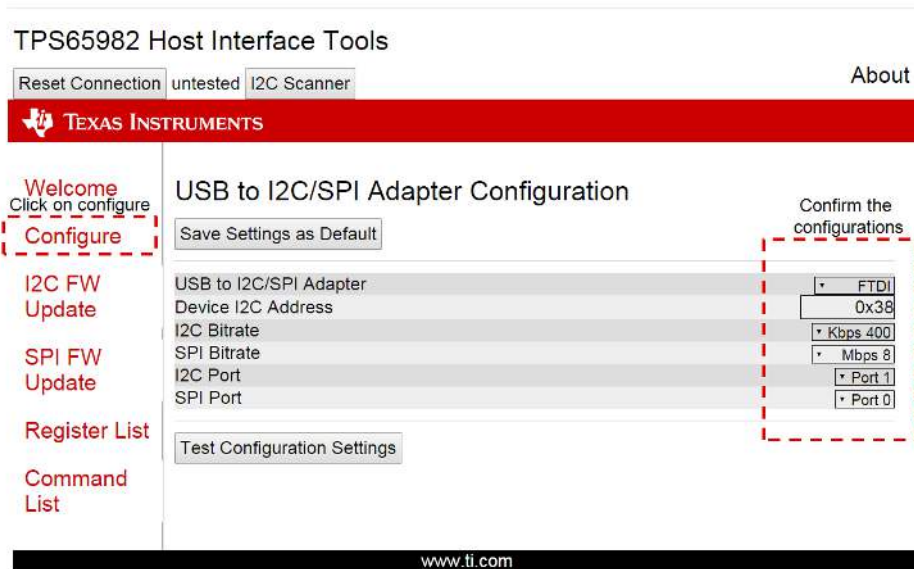

Figure 13. FTDI-based Adapter Configuration Settings
- Step 1. Open the TPS6598x Utilities GUI, click the *Configure* link on the left side of the GUI, verify the settings, and confirm connection by clicking the *Test Configuration Settings* button (see Figure 13). When using an Aardvark adapter, select *Aardvark* for **USB to I2C/SPI Adapter** and *Port 0* for both **I2C Port** and **SPI Port**.